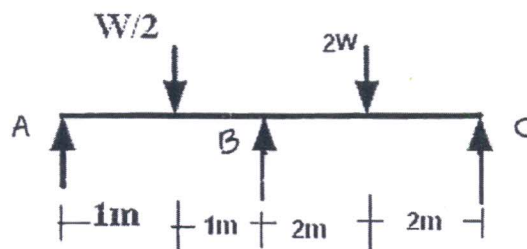

Fig. 6
- (c) Find the collapse load for a continuous beam ABC loaded as shown in Fig. 6. [7]